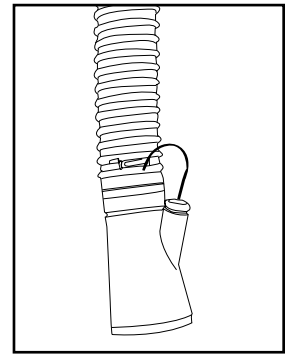

Fig 16 Connect the tailpipe adapter to the end of the exhaust hose with the clamp provided.
- Attach tailpipe adapter(s) to the other end of the hose with a clamp. See Fig. 16.